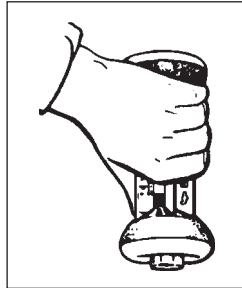
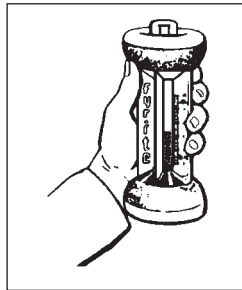

Figure 7
Figure 8
7. Absorb sample gas into FYRITE by inverting until fluid drains into top reservoir (Fig. 7). Then turn upright (Fig. 8) to drain fluid into bottom reservoir. Repeat this step three (3) more times (four complete inversions total).